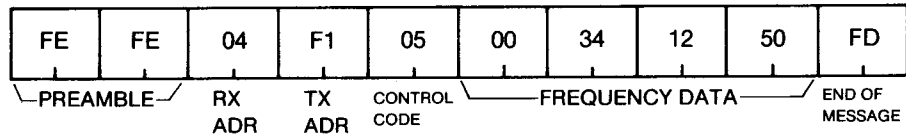

Fig. 22
(4) If the controller sends a frequency which is above the tuning range of the IC-735, the IC-735 returns the NG (NOT GOOD) command. See Figs. 22, 23, and 24.